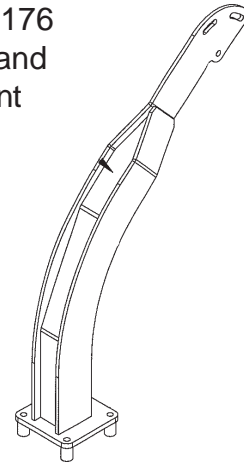

Figure 1
1. Fitting Joy Stick Mount Stand to Tractor Cab. The joystick stand is a weldment that will bolt to the floor of the cab (See Figure 1 & 2). Sit the stand inside cab of tractor and position it for the best reach by the operator, sometimes it is best to consult the operator to see what is needed by them. once the location is determined use a marker pencil to mark the holes in the stand to the floor mat of cab.